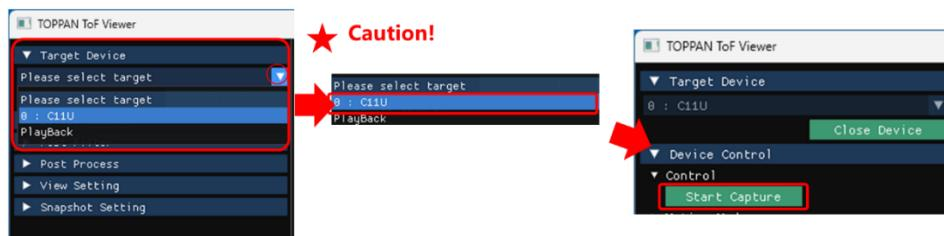

Figure 13. From Device Selection to "Start Capture"
Refer to *Figure 13*, start the TOPPAN ToF Viewer, and select “C11U” from “Target Device” in the left menu.
- When initial selecting a camera device after launching this application (See ★ **Figure 13**), the VCSEL